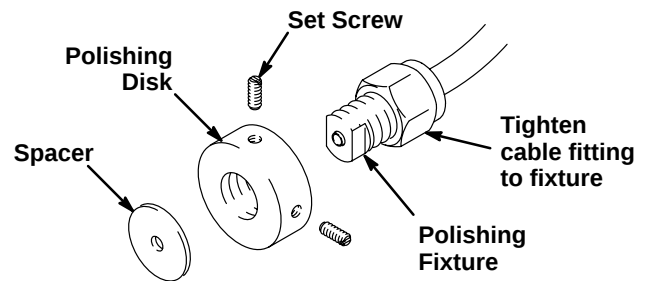

Fig 3 01015
5. Seat the fiber optic cable in the polishing fixture. Tighten the cable fittings to the fixture. See Fig 3.